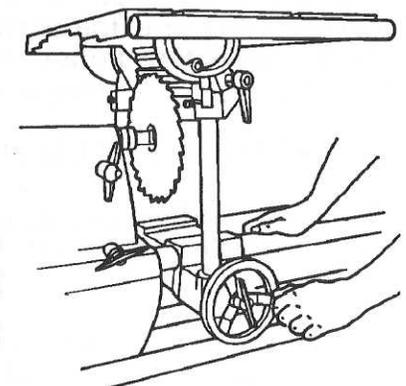

Fig. B-61
23. Loosen the carriage lock and slide the carriage so the saw blade is directly beneath the slot in the table insert. See Fig. B-61.